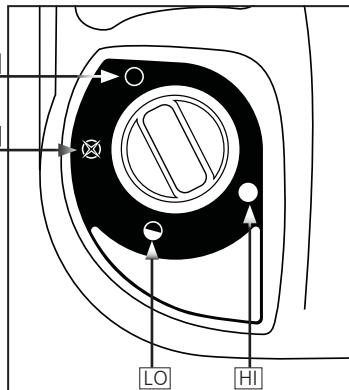
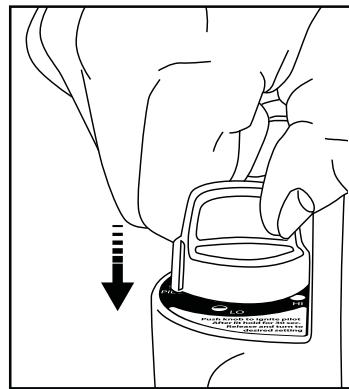

Figure 1: Control Knob
Figure 3: Ignition
- Make sure four-position Control Knob Is in "OFF" position: see Figure 1.
- Turn Control Knob counterclockwise to "PILOT" position and depress to light; see Figure 1 and Figure 3.
- After burner tile has turned bright orange, adjust heat output by turning Control Knob to desired position ("LO" or "HI" setting) Figure 1.